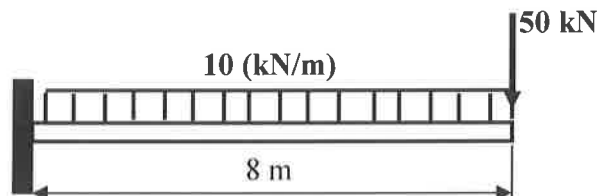

Figure Q3
3. A point load of 50 kN and a UDL of $w = 10 \text{ kN/m}$ are applied to a cantilever 8 m in length as shown in Figure Q3. The cantilever has a round cross-section of diameter 275 mm. Calculate the maximum vertical deflection at the free end. Take $E = 205 \text{ GN/m}^2$. **(237.7 mm)**